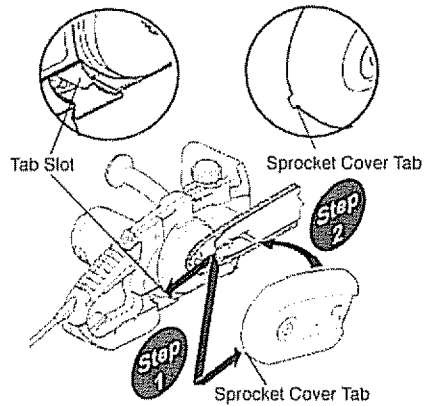

Figure 7 - Installing Sprocket Cover
9. Insert the sprocket cover tab into the saw body tab slot, *Step 1*. Then lower sprocket cover onto guide bar bolt, *Step 2*. (See Figure 7) **NOTE:** At this point the sprocket cover will not be flush against the saw body.